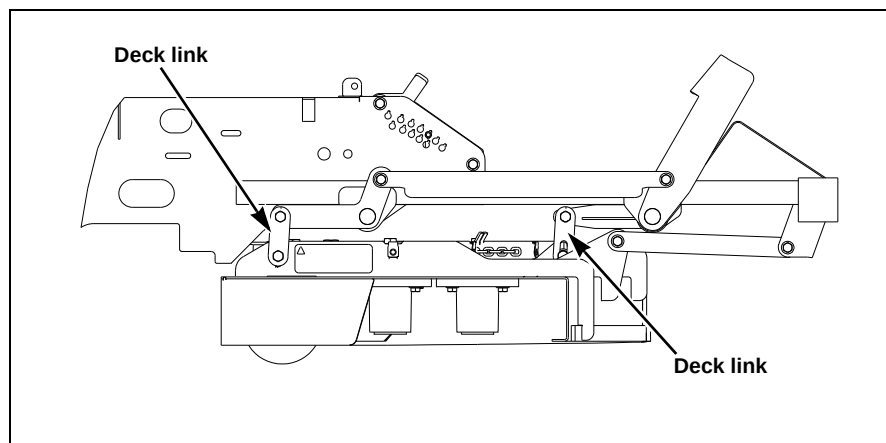

Figure 6-2
9. Tighten the three deck links to the deck with the flanged nuts clamping on either side of the slot with 48 ft.-lbs. of torque. Release the lift pedal and ensure that the deck can be raised and locked into the transport position. Figure 6-2